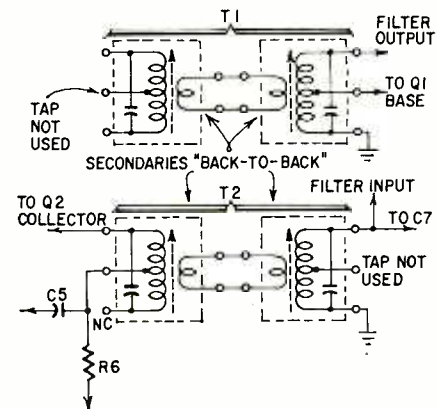

Fig. 8—How to wire four single-tuned i.f. transformers for use as T1 and T2. See parts list.
The amplifier is normally fed from a mixer circuit through the input transformer T1. (If you cannot get double-tuned transformers for transistors, use the scheme of Fig. 8.) The amplifier may also be fed from a converter or another i.f. amplifier. The first two transistors, Q1 and Q2, are connected in a form of the Darlington circuit (super-alpha pair). Usually, the Darlington circuit has both collectors tied together, but here it is more stable when the collector of the first transistor is decoupled for ac.
- [The author states that these double-tuned i.f. transformers are not widely advertised or listed in catalogs but many distributors stock them as a kit of replacement transformers for Japanese radios. Check your dealer's counter display cards or bargain counter. If they are not available, use two Stancor RTC-8671 or J. W. Miller 9-C1 transformers connected back to back for T1 and T2. See text and Fig. 8.—Editor]